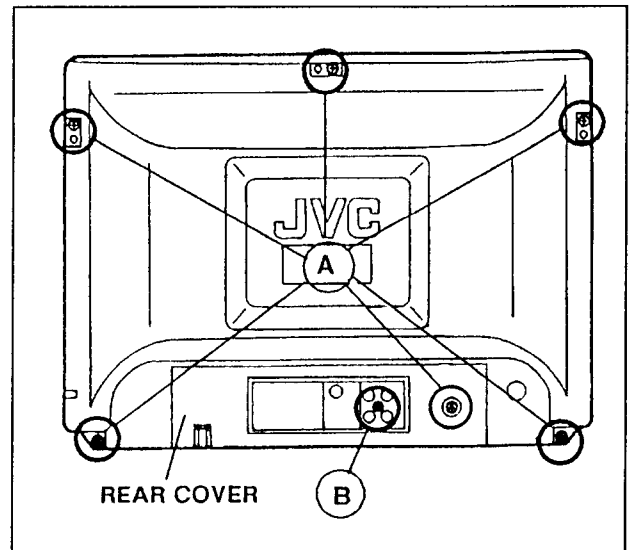

Fig. 1
2. Remove the six screws marked (A) and one screw marked (B) as shown in Fig. 1.